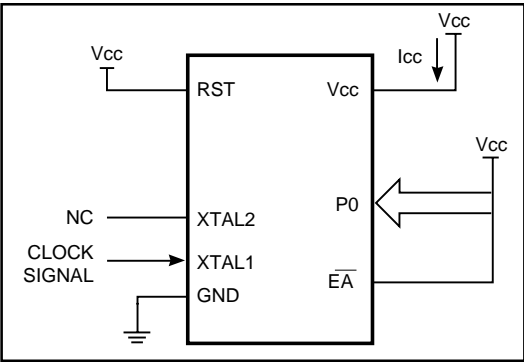

Figure 28. Active Mode
1. See Figures 28, 29, 30, and 31 for Icc test conditions.